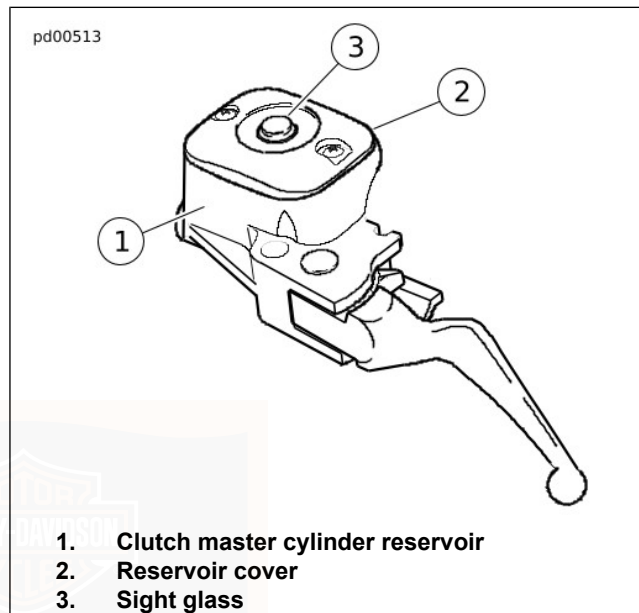

Figure 59. Clutch Master Cylinder Reservoir
2. See Figure 59. View reservoir sight glass (3). Verify fluid presence. Sight glass appears dark if fluid is present.